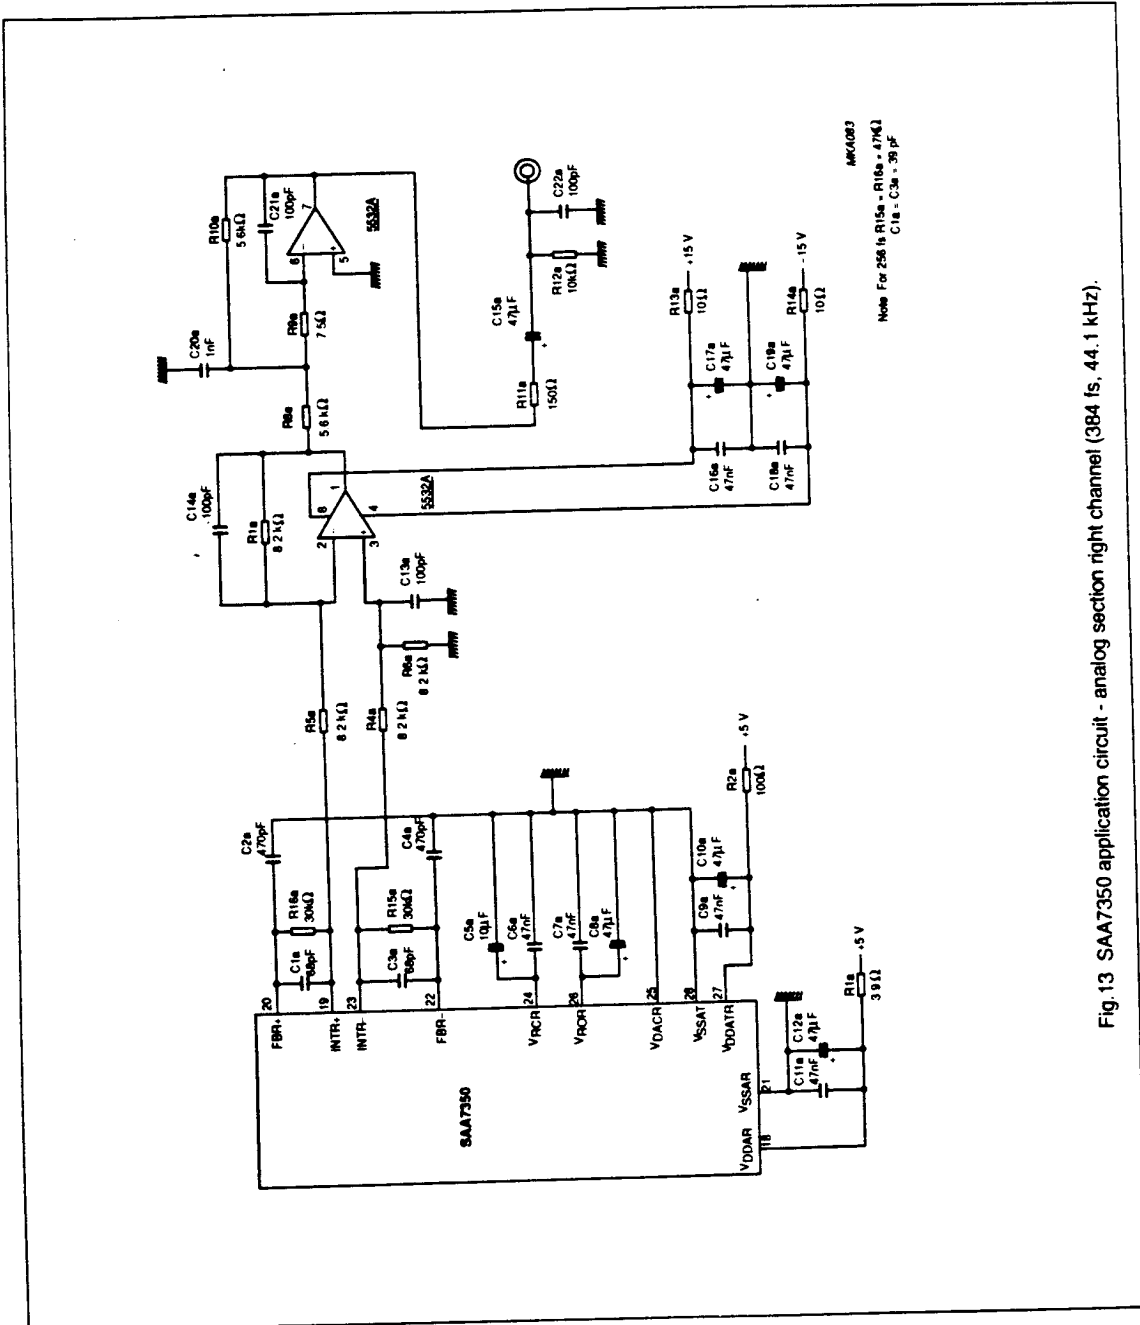

Fig. 13 SAA7350 application circuit - analog section right channel (384 is, 44.1 kHz).
- Device measured in differential mode with external components shown in recommended application diagram (see Figs 13 and 14). It should be noted that for 1.80 mV output, feedback resistors R16a, R17a, R16b, R17b should be 31.6 k Ω . Application diagram shows preferred type range values of 30 k Ω which give $1.80 \times 30/31.6 = 1.70$ mV.
- Application output level measured at output from first operational-amplifier stage in Figs 13 and 14.